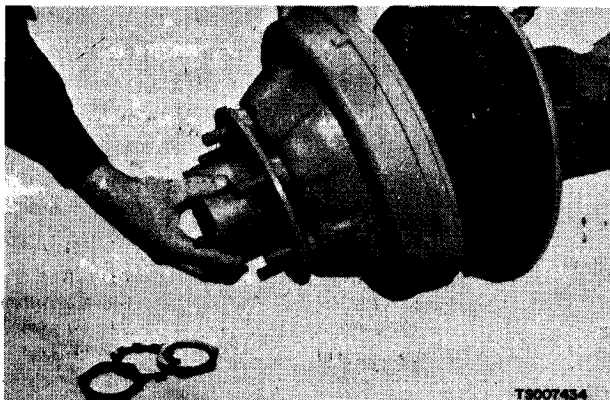

Figure 10-4. Removing Hub and Drum Assembly.
- (3) Bend up tang on bearing lock exposed after removal of axle shaft. Loosen and remove bearing nuts and nut lock. Remove bearing cone. Pull off hub and drum assembly. See figure 10-4.